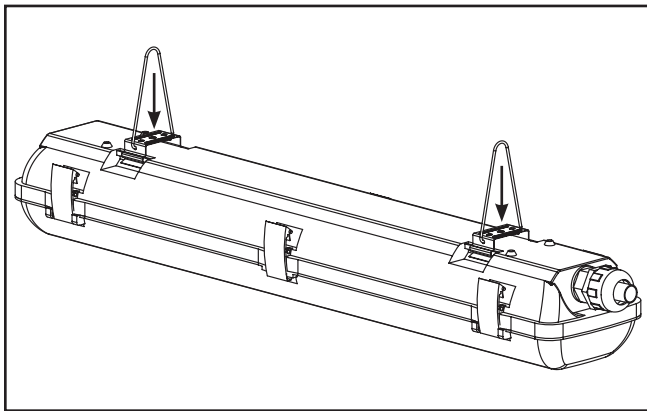

Figure 5.
6. Secure mounting clips to housing recesses by firmly pressing them into place until both sides of the clip are secured. (Figure 5) Hang fixture from customer supplied chain using V-brackets.